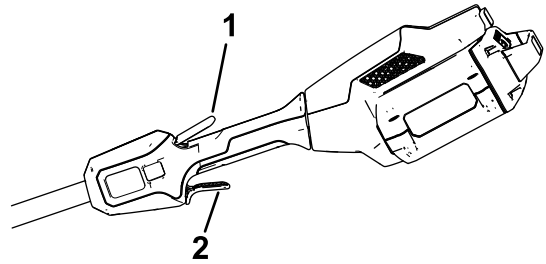

Figure 8
4. To start the trimmer, squeeze the lockout trigger, then squeeze the run trigger (Figure 8).